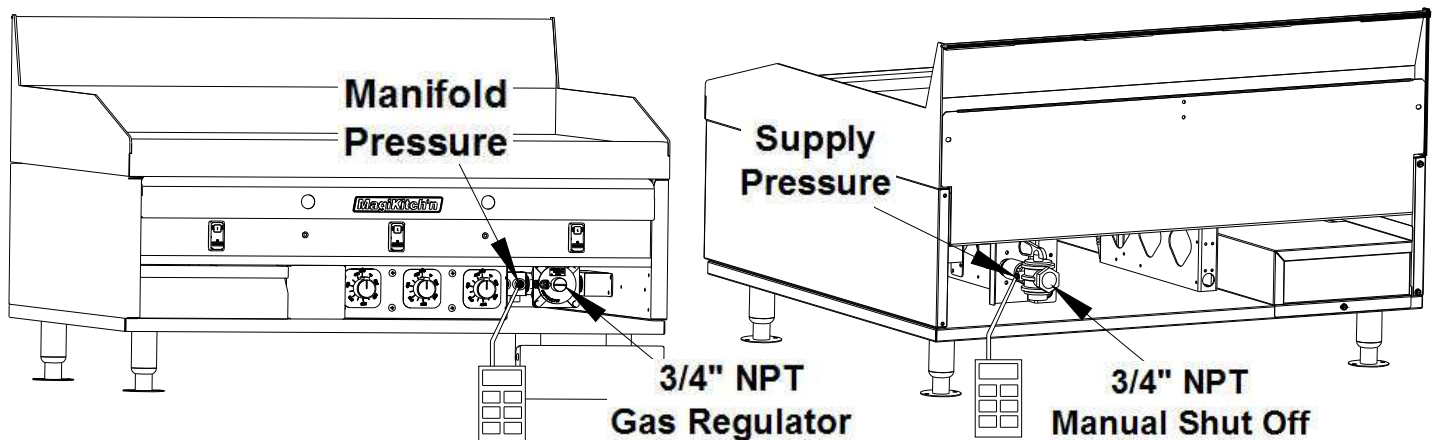

Figure 6. Matchless Ignition Regulator System
1. The gas input regulator for your new appliance has been installed at the factory, See Figures 6 & 6a depending on the model of your appliance for the location of the regulator and the manual shut off valve. Using a regulator other than the one supplied with the unit will void the warranty.
regulator, see Figure 6 & 6a. To check the supply pressure to the appliance use the pressure test point supplied on the manual shut off valve, also see Figure 6 & 6a.
Orifices are sized to provide proper gas flow to the rated BTU/hr for each model. Regulator pressure must be measured and adjusted before the unit goes into service, following installation and when operational performance is in question. The manifold and supply pressure readings are taken at the pressure test points provided, see Figure 6 & 6a.
2. Open front door of the griddle, turn the manual gas shut off valve to the “ON” position, see Figure 6.